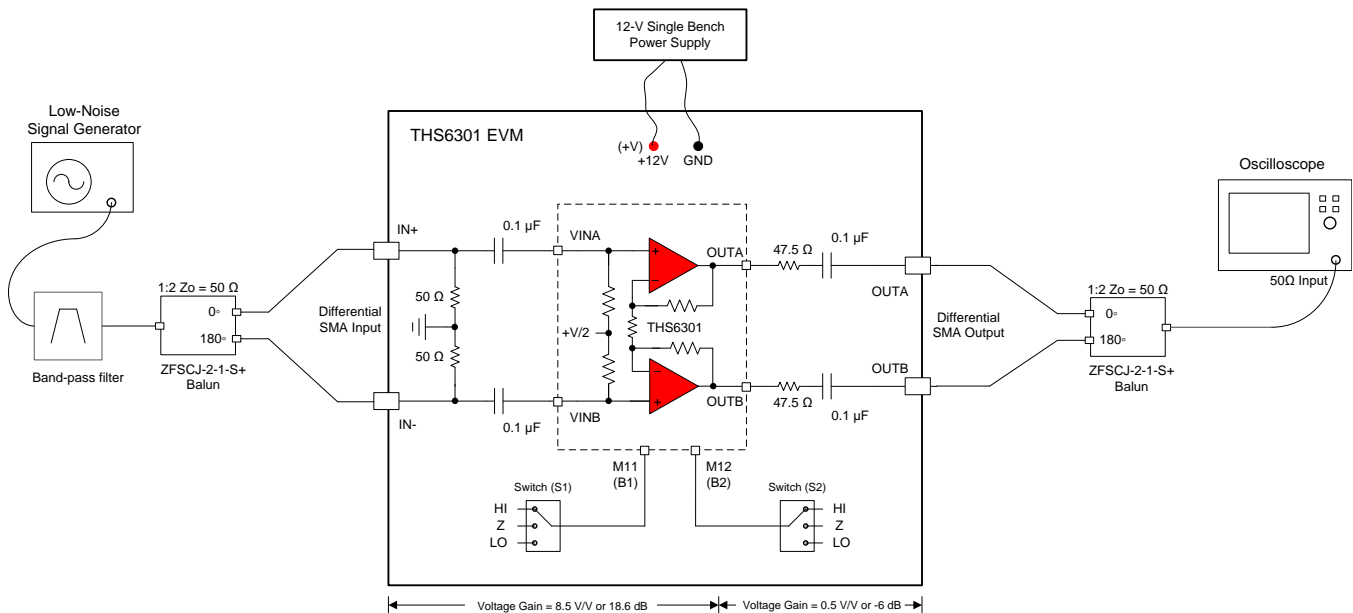

Figure 1. THS6301 EVM Default Configuration Setup Block Diagram
As delivered, the EVM contains a fully functional example circuit. Provide power supplies, a signal source, and a measuring instrument as Figure 1 shows. Figure 1 omits some components such as supply bypass capacitors and test points for clarity.
The THS6301 EVM default configuration is a differential input, differential output fixed gain of 8.5 V/V from SMA inputs IN+/- to the THS6301 device output pins as Figure 1 shows. The feedback and gain setting resistors internal to the device set the fixed gain of 8.5 V/V. An external 180° phase-shifted combiner in the input and output is required to convert single-ended signals to differential signals to use with standard single-ended 50-Ω laboratory equipment.
On the EVM, the THS6301 device output is driving an AC-coupled equivalent $R_{LOAD} = 200 \Omega$ determined by the output series resistor and the external test equipment as Figure 1 shows. The 47.5-Ω output series resistor interfaces with the external 1:2 balun and results in a voltage loss of approximately 6 dB at the OUTA and OUTB SMA connectors. For high-output signal swings, TI recommends an external 6-dB or 9-dB attenuator at the OUTA and OUTB SMA connectors to protect the measuring instrument from being overdriven by the device output.
- Two external 1:2 ($Z_o = 50 \Omega$) balun as Figure 1 shows
3.2 Power Supply Setup (see Figure 1)
3.3 Input and Output Test Setup (see Figure 1)
- The THS6301 evaluation board provides the customer flexibility in testing at different input frequencies using external input and output baluns as Figure 1 shows. Figure 1 provides a test balun example.